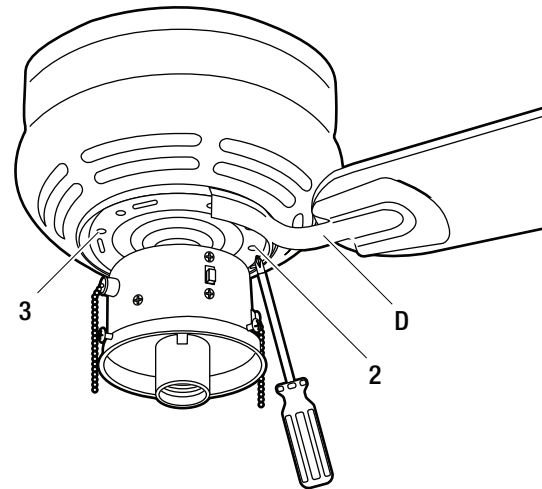

Figure 13
- Position the blade holder (D) under the motor such that the alignment post on the blade holder fits into the slot (3) in the motor (Figure 13).
- Tighten the pre-installed blade holder screws (2).